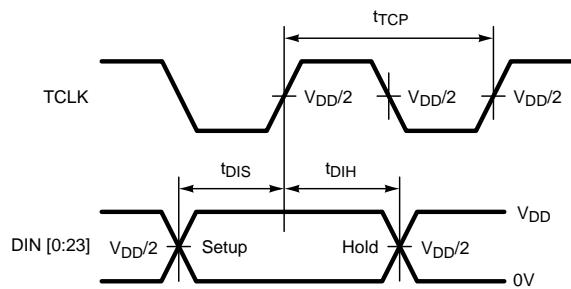

Figure 5. Serializer Setup/Hold Times
(2) *Figure 5 and Figure 15* show a rising edge data strobe (TCLK IN/RCLK OUT).
(3) t_{JIT} (@BER of 10e-9) specifies the allowable jitter on TCLK. t_{JIT} not included in TxOUT_E_O parameter.